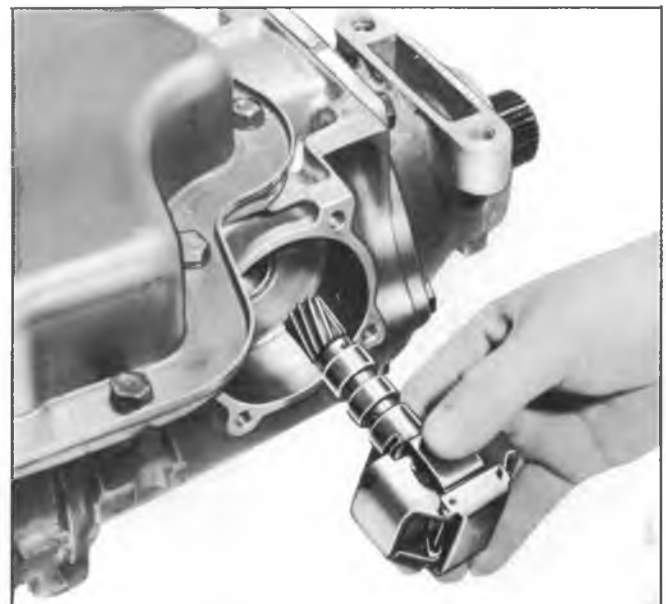

Fig. 154T--Installing Governor Assembly
1. Install governor assembly into case (fig. 154T).
2. Attach governor cover and gasket with four (4) attaching bolts. Torque bolts to 18 ft. lbs.